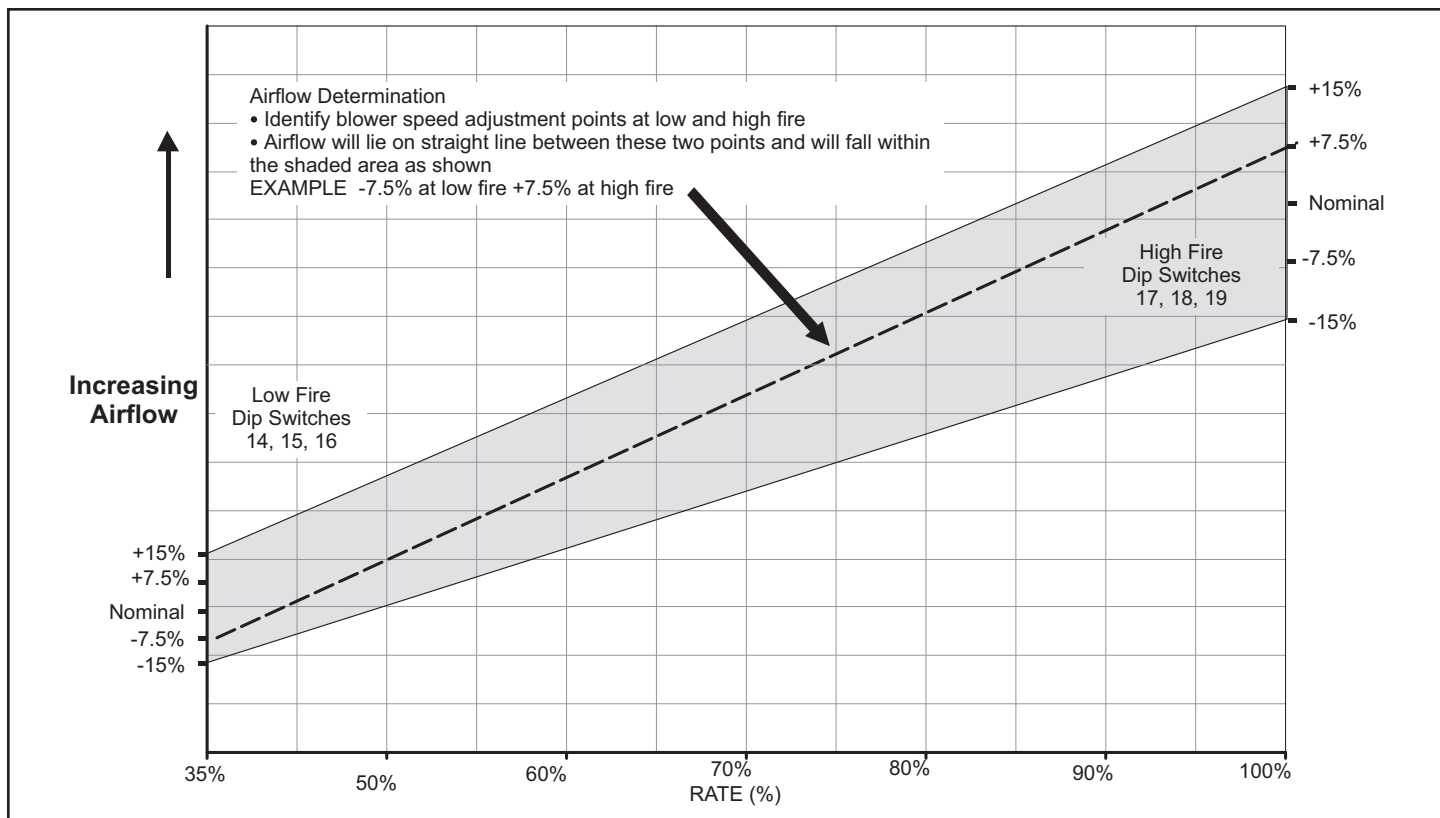

Figure 6.
-- Switches 14 through 19 are used to select heating mode blower motor speeds. These switches are factory set at the OFF position which provides 100 % of normal speed during **HIGH HEAT** demand, 70% of normal speed during **MIDRANGE HEAT** demand and 40% of normal speed during **LOW HEAT** demand. Switches 14, 15 and 16 are used to adjust the **LOW FIRE** blower motor speed. Switches 17, 18 and 19 are used to adjust the **HIGH FIRE** blower motor speed. **Figure 6** and **Table 11** and **Table 12** provides the heating mode blower speeds that will result from different switch settings. **Figure 6** indicates the effect the DIP switch settings have upon the heating airflow at various furnace firing rates.